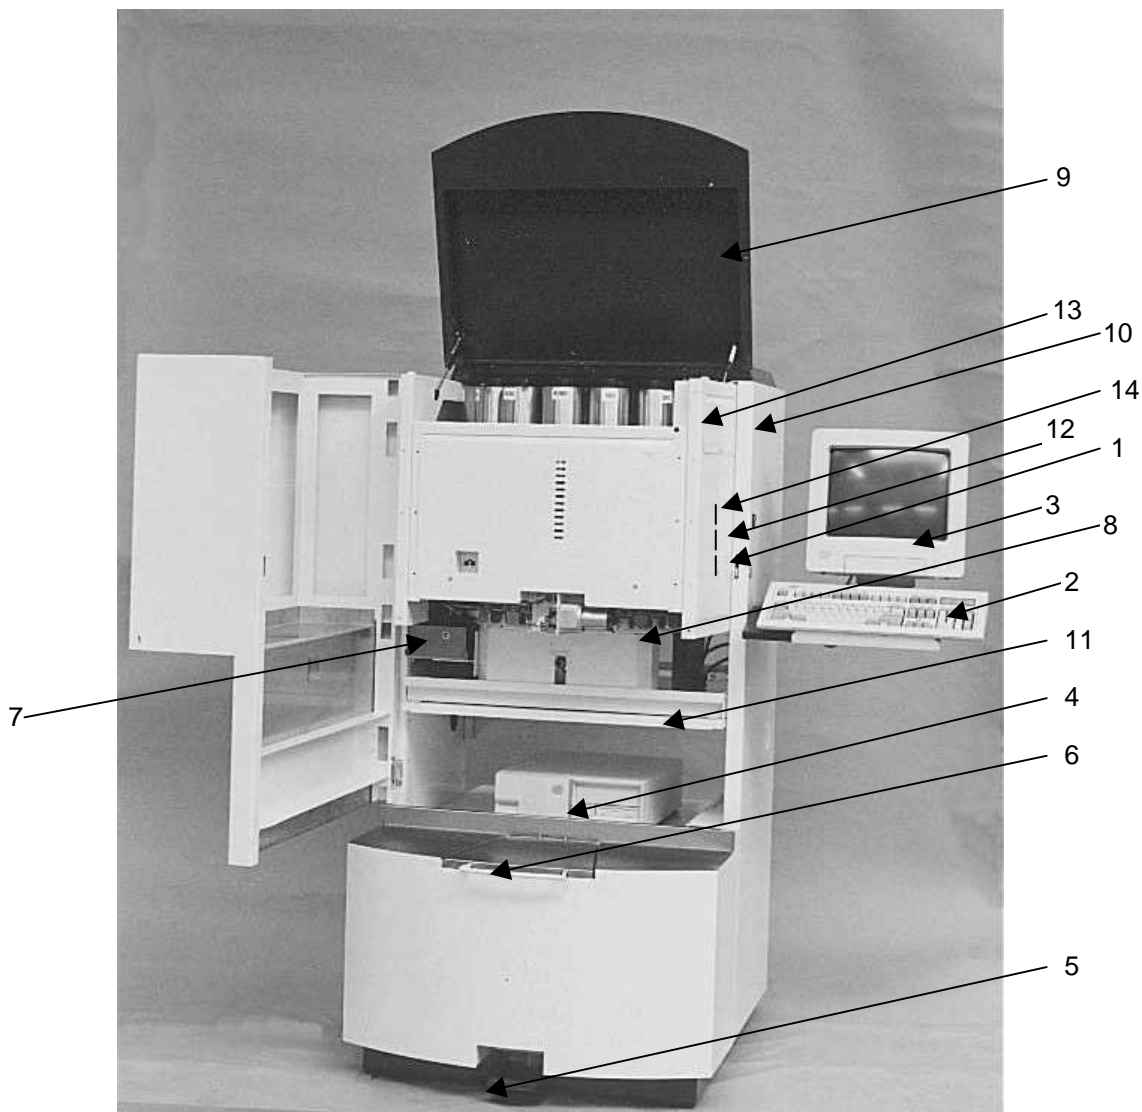

figure 6
1. Turn the **red** main switch (see figure 6, number 1) to position
Then turn also the **green** switch (see figure 6, number 12) to position . Now the computer is turned on. Switch the computer off at the end of the day.
5. Fill the canisters with paste up to the indicated maximum level* by opening the flap (figure 6, number 9) and removing the lid of the canister. The canister can now be filled to the top of the upper stirrer. Make sure that the piston rod remains at the same height.
ATTENTION: Do not leave the flap (figure 6, number 9) or front door open. The stirring system does only work by closed doors.